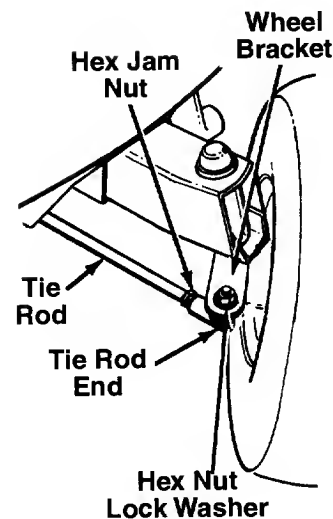

FIGURE 12.
1. Remove the hex nut and lock washer, and drop the tie rod end from the wheel bracket. See figure 12.